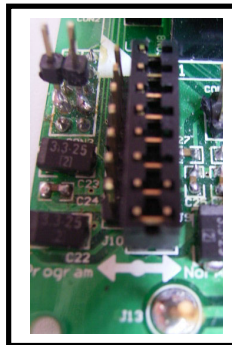

Figure 7.7 Select “Normal” Mode
- Step 3. 8 Pin jumper jumps to “Normal” end, as shown in the Figure7.7.
- Step 6. 8 Pin Jumper jumps to "Normal" end, as shown in the Figure 7.7, then can test the function.